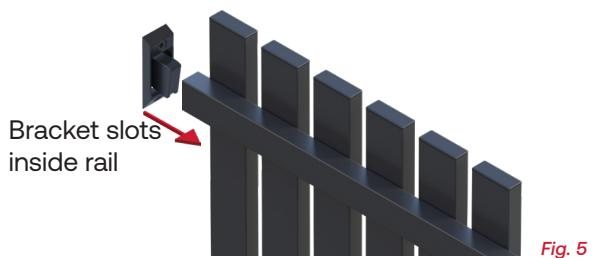

Fig. 5
All post holes should be at least 250mm in diameter, 600mm deep, and should be straight, with the sides either parallel, or wider at the bottom than the top. *Fig. 5*
2. Slot the brackets onto the rails *Fig. 5*